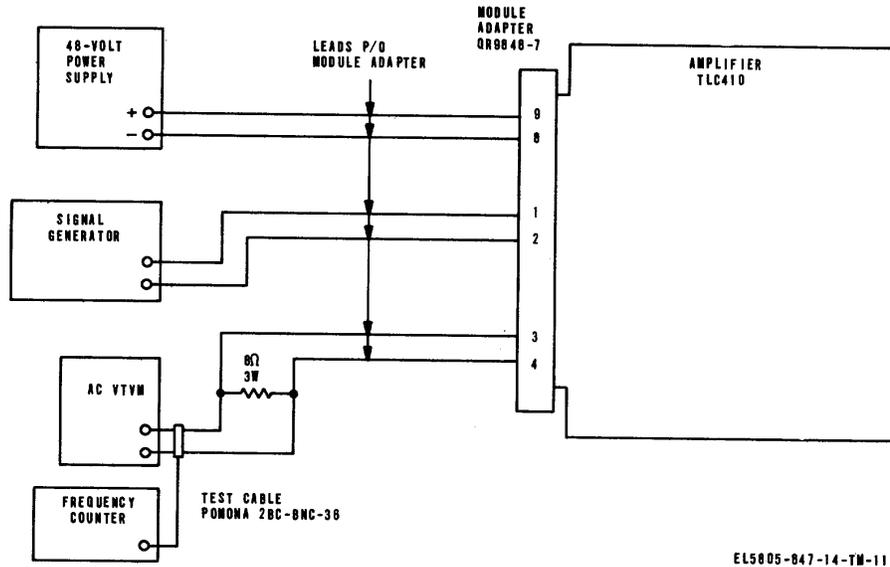

Figure 6-24. Amplifier TLC-410 performance test setup diagram .
(1) Connect the test equipment as shown in figure 6-24.
(2) Adjust the power supply for 48 vdc.
(3) Adjust the signal generator for an output of 1, 000 Hz at 3.64 vrms. The ac vtm must